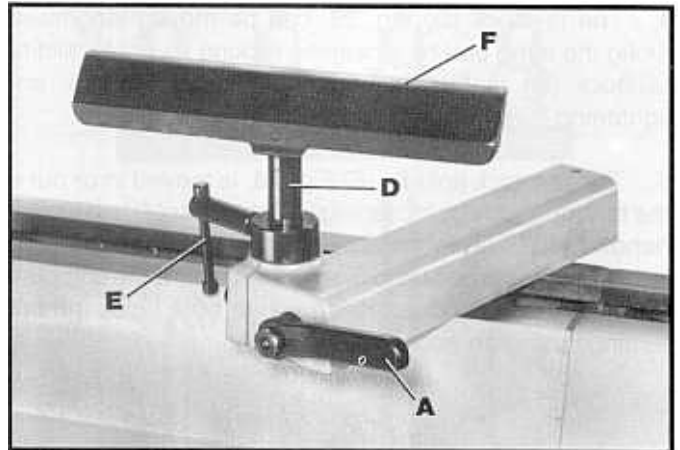

Fig. 22
2. Two tool rests, one 12" long and one 6" long are supplied with your lathe. Decide which one you wish to use and insert post (D) Fig. 22, of tool rest into holder as shown. Tighten lock lever (E) to hold tool rest in place.
3. To position the tool rest base on the lathe bed, lift up clamp handle (A) Fig. 22, move the tool rest base to the desired position and lock in place by pushing down on handle (A). **NOTE:** Clamp handle (A) can be repositioned by pulling out and rotating the handle. To adjust the tool rest (F) for the correct height, loosen locking lever (E), move tool rest (F) up or down and tighten locking lever (E).